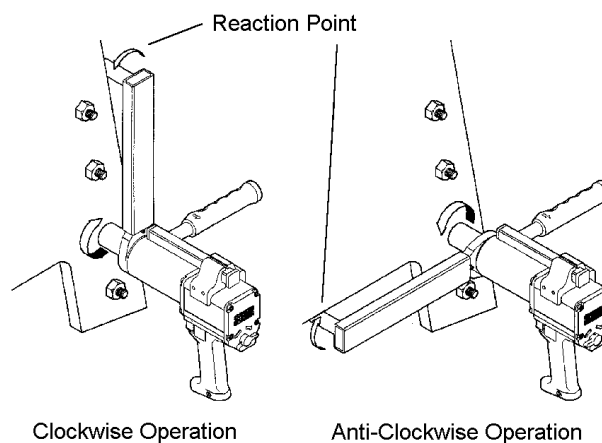

FIG 4
When the Electrotorque is in operation the Reaction Arm (B or N) rotates in the opposite direction to the Output Square Drive (D.) and must be allowed to rest squarely against a solid object or surface adjacent to the bolt to be tightened. (See Figure 4.)
2. Check Clock/Anti-clock Switch (E) is set correctly.
3. Rotate Handle (L) into convenient position relative to Reaction Arm (B or N).
4. Fit the tool onto the bolt to be tightened with the Reaction Arm (B or N) adjacent to the reaction point. See Figure 4.